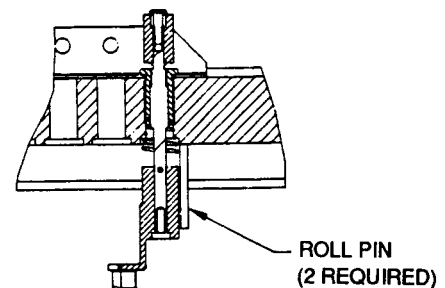

FIGURE 7 • Fork Stop Assembly
9. Install the operating fork sliding roll pin into fork groove. Secure with lock washer and screw. Fork should be facing bottom of panel (see Figure 7).
Remove breaker operator assembly and bearing and using a non-petroleum based thread lubricant, thread in plug until it is tight against face plate (see Figure 7). Install two roll pins where necessary to limit over travel of adjacent operator forks.